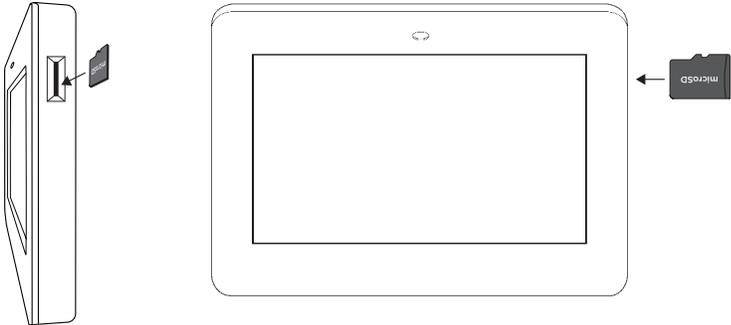

Figure 11: Inserting a microSD Card
5. Insert the microSD card into the microSD card slot on the right side of the keypad. Refer to Figure 11.